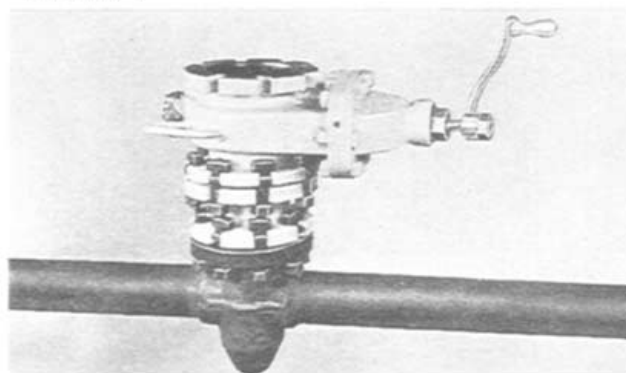

FIGURE 6
- b. With all 3" fittings and with 4" H-17256, 4" H-17257, 4" H-17258, 4" H-17261, 4" H-17264, 4" H-17269, 4" H-17271 or 4" H-17272 fittings, bolt the proper valve adapter to the fitting, then bolt the gate valve to the adapter. Figure 6. At both of these flanged joints, check to be sure that the gaskets are in good condition and in place. The bolt nuts for both joints should be loose at this point to permit the gate valve and gate valve adapter to be shifted slightly if necessary\*. (All 3" fittings and 4" fittings having Class 300, 400 or 600 flanges require a valve adapter between the fitting and the valve.)